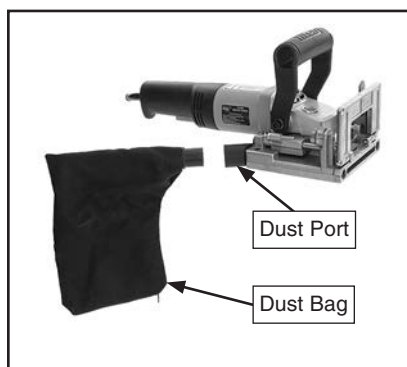

Figure 7. Installing dust bag into dust port.
1. Push plastic end of dust bag into dust port, as shown in **Figure 7**.